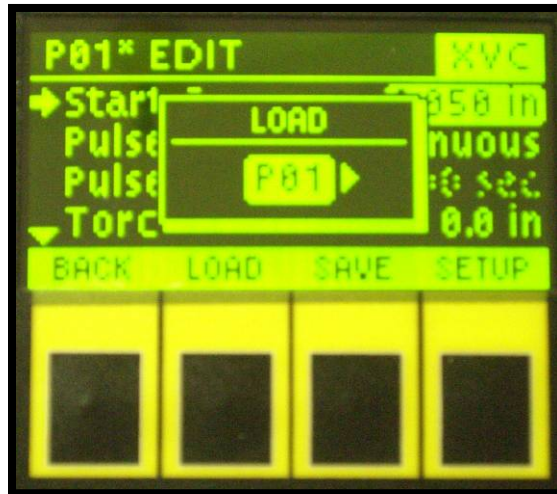

Figure 5-2, XMS-VC Hand Pendant *Load* Screen
From the *Start-up* screen, the four (4) Soft Buttons below the Split Screen Display read EDIT, DISABLE, LO SPD, and STATUS. Press the EDIT Button, then, press the LOAD Button. Use the LEFT/RIGHT Soft buttons to select the desired program (P01 to P10). Press the LOAD Button again to load the program. (See Figure 5-2, *XMS-VC Hand Pendant Load Screen.*)